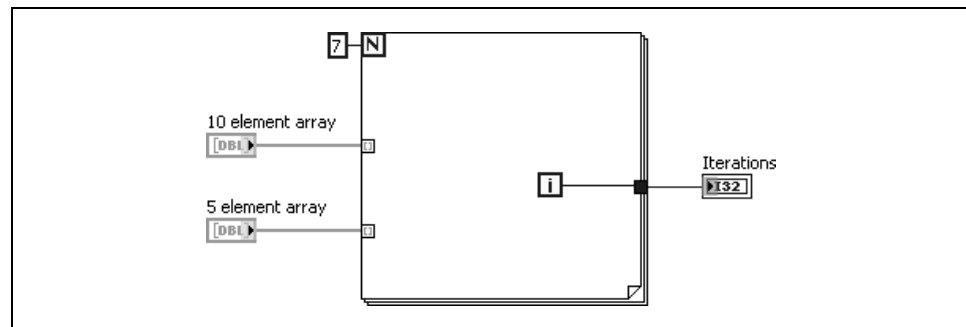

Figure 5-24. What is the Value of the Iteration Indicator?
2. You have two input arrays wired to a For Loop. Auto-indexing is enabled on both tunnels. One array has 10 elements, the second array has 5 elements. A value of 7 is wired to the Count terminal, as shown in Figure 5-24. What is the value of the Iterations indicator after running this VI?